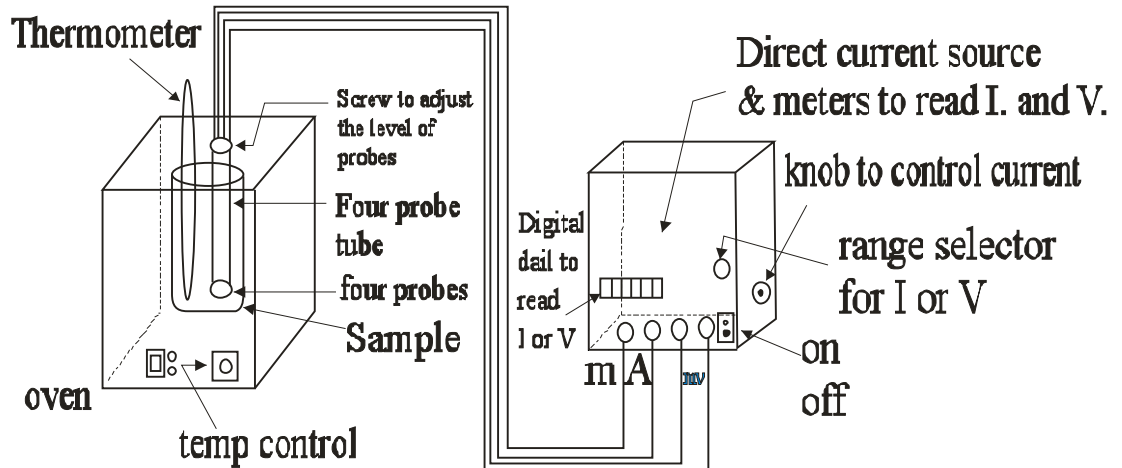

Fig. 20.1 Experimental arrangement for resistivity measurement
3. Put the sample in the oven carefully and with help of screw connect four probe connecting pins with the sample (see fig. 20.1)
10. Find forbidden gap of semiconductor by formula (12) from expression (12)